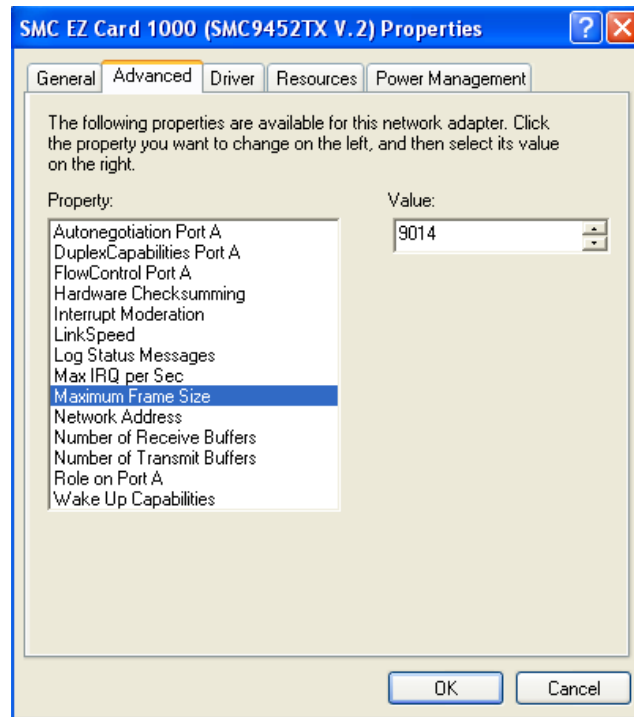

Figure 9. Network card advanced settings.
- From the Properties window select **Configure** then select the **Advanced** tab. See Figure 9.